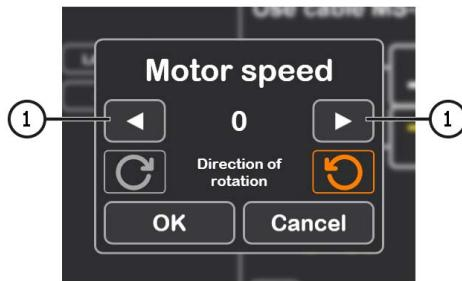

Figure 22
- After activating the diagnostics mode, a preliminary alternator check window will open, see Figure 22.
- After clicking the "Automatic test" button, a preliminary alternator check window will appear, see Figure 22.